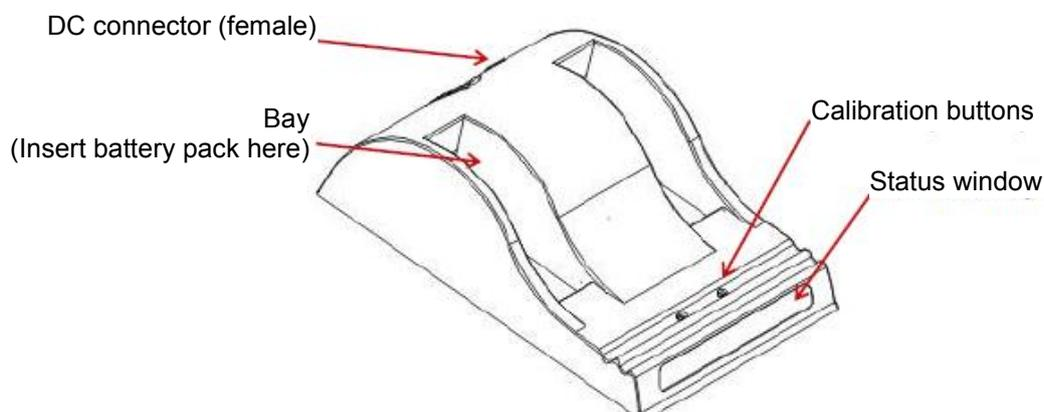

Figure 2.9 Battery charger
- 1) Insert the DC connector plug of the AC adaptor to the DC connector socket (female, see Figure 2.9) of the battery charger.
Green, blue, and red lamps on the status window of the battery charger (see Figure 2.9) turn on temporarily for several seconds before turning off.
- 4) Insert the battery pack to the battery bay of the battery charger (see Figure 2.9).
- 5) Push the calibration button (see Figure 2.9) corresponding to the inserted battery pack.